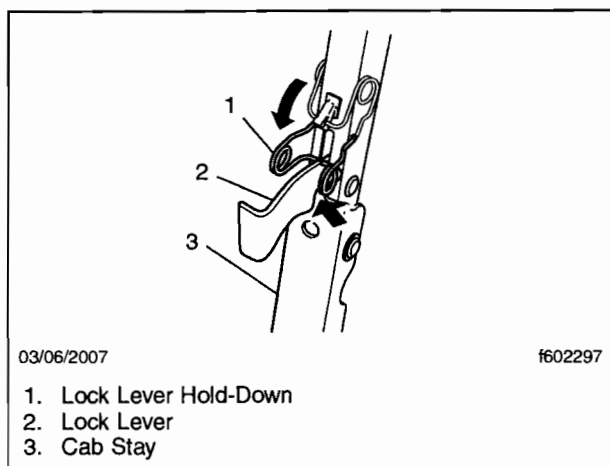

Fig. 4, Engaging the Hold Down
- 2.3 Use the tilt handle to raise the cab. After confirming that the lock lever is hooked onto the cab stay, and the stay is secured, fit the hold-down into the notch in the lock lever. The cab stay must be completely straight for the hold-down to engage in the notch. See **Fig. 4**.